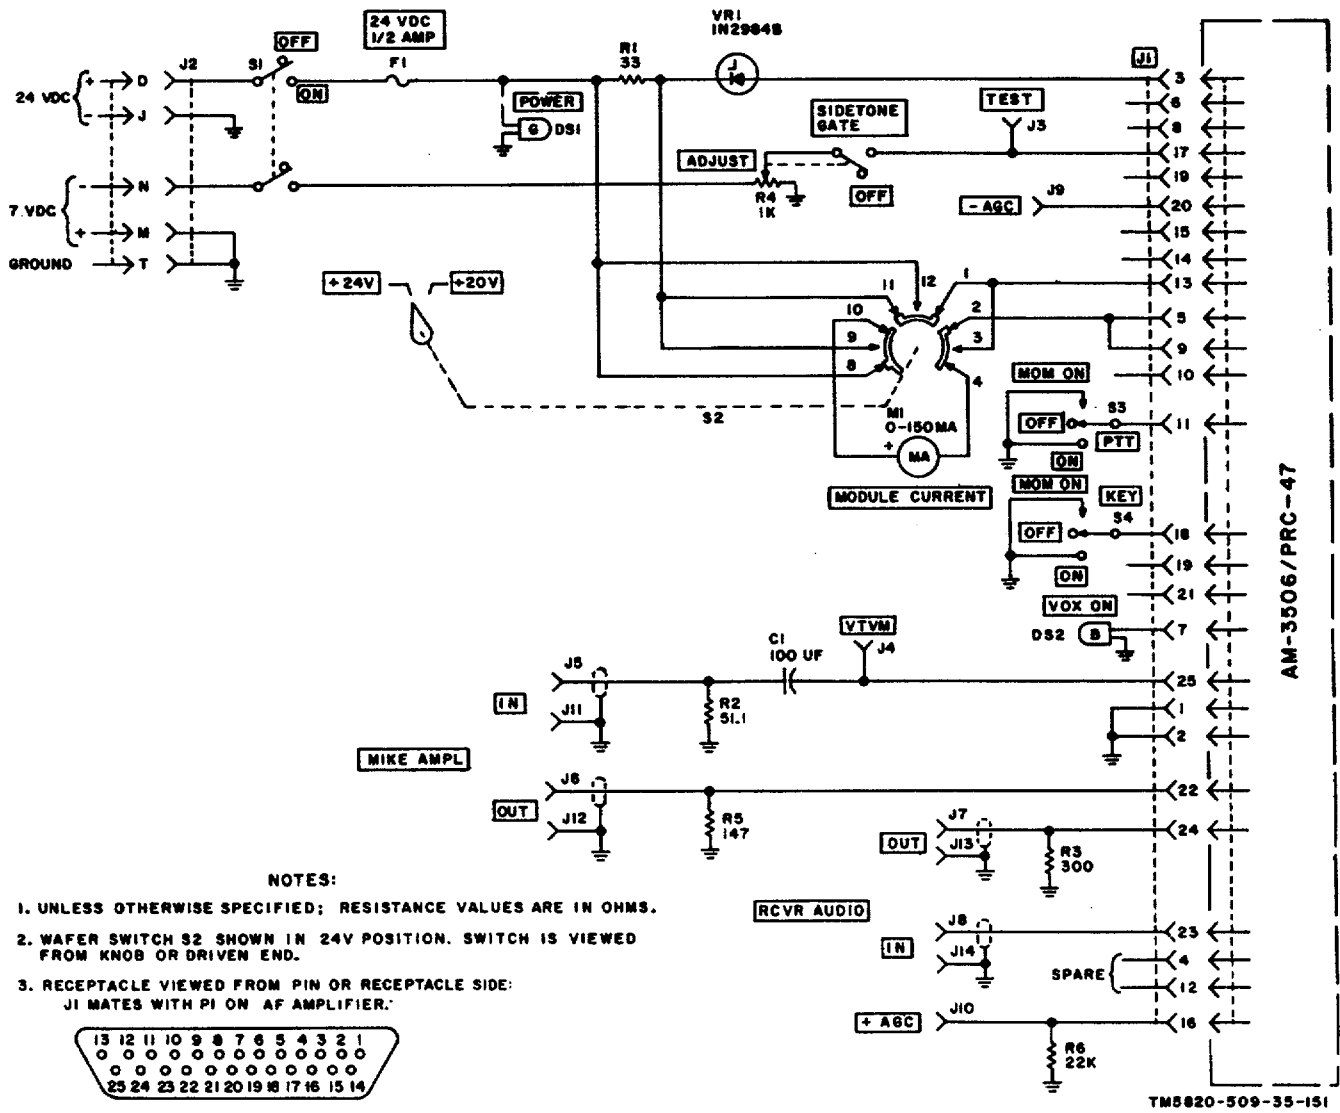

Figure 7-15. Test Fixture for Audio Frequency Amplifier AM-3506/PRC-47, Schematic Diagram.
- e. Test fixture diagrams (fig. 7-15 through 7-20).